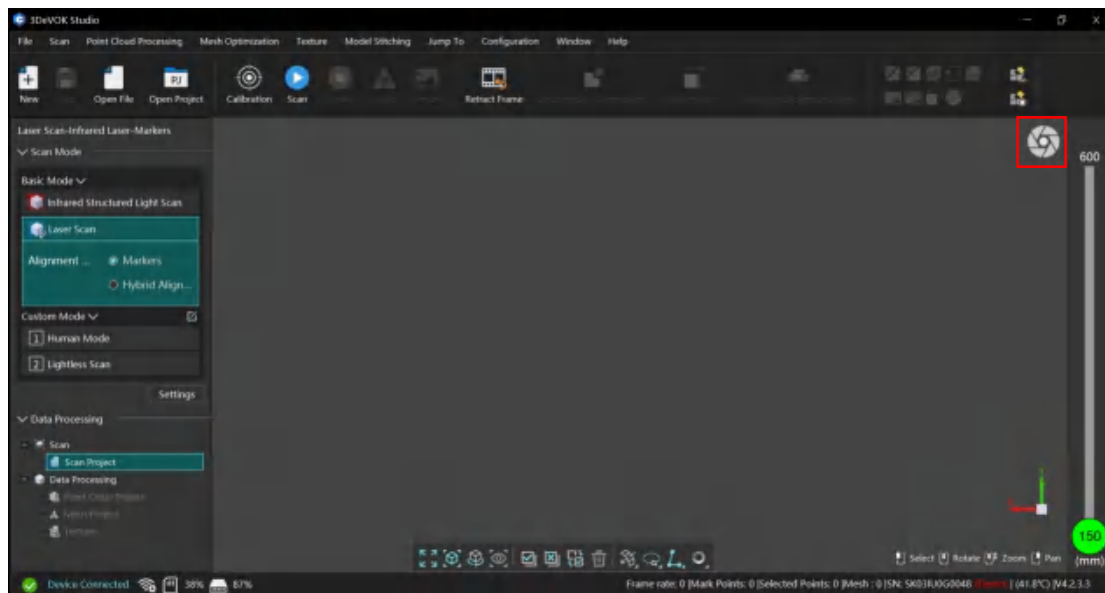

Figure 7-11 Camera Field of View
The camera field of view provides real-time visualization of the scanner's observable area, enabling operators to: (1) verify object position relative to the optimal scanning zone, while simultaneously monitoring (2) laser line intensity, (3) color camera fill light levels, and (4) color camera exposure values for comprehensive process control, which is shown in Figure 7-11.